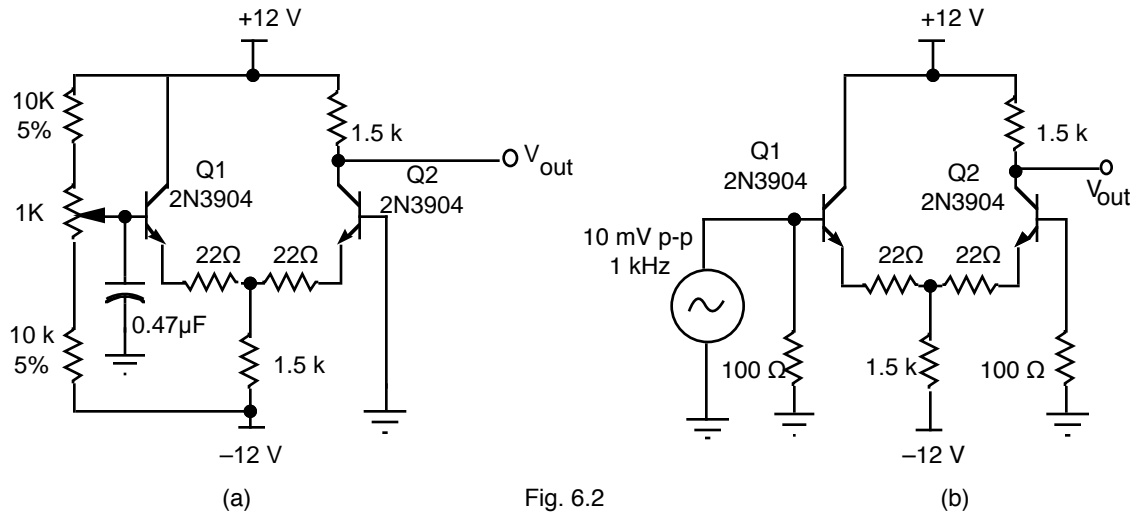

Fig. 6.2
b) In Fig. 6.2(a), if you ground the base of transistor Q_1 , the transistors are identical and the components have the values shown, then the output voltage will be $+6.35$ V. For this experiment, any deviation from $+6.35$ V will be called $V_{\text{out(off)}}$. Connect the circuit of Fig. 6.2(a). Jumper the base of Q_1 to ground and measure $V_{\text{out(off)}}$. Take off the jumper and connect the potentiometer voltage-divider and adjust it until the output voltage is $+6.35$ V. Record the base voltage of Q_1 as $V_{\text{in(off)}}$.
c) Measure the differential and common-mode gains, A and A_{cm} , using the connection of Fig. 6.2(b). Use a frequency of 1 kHz and a signal level of around 10 mV p-p. Compare with calculated values.